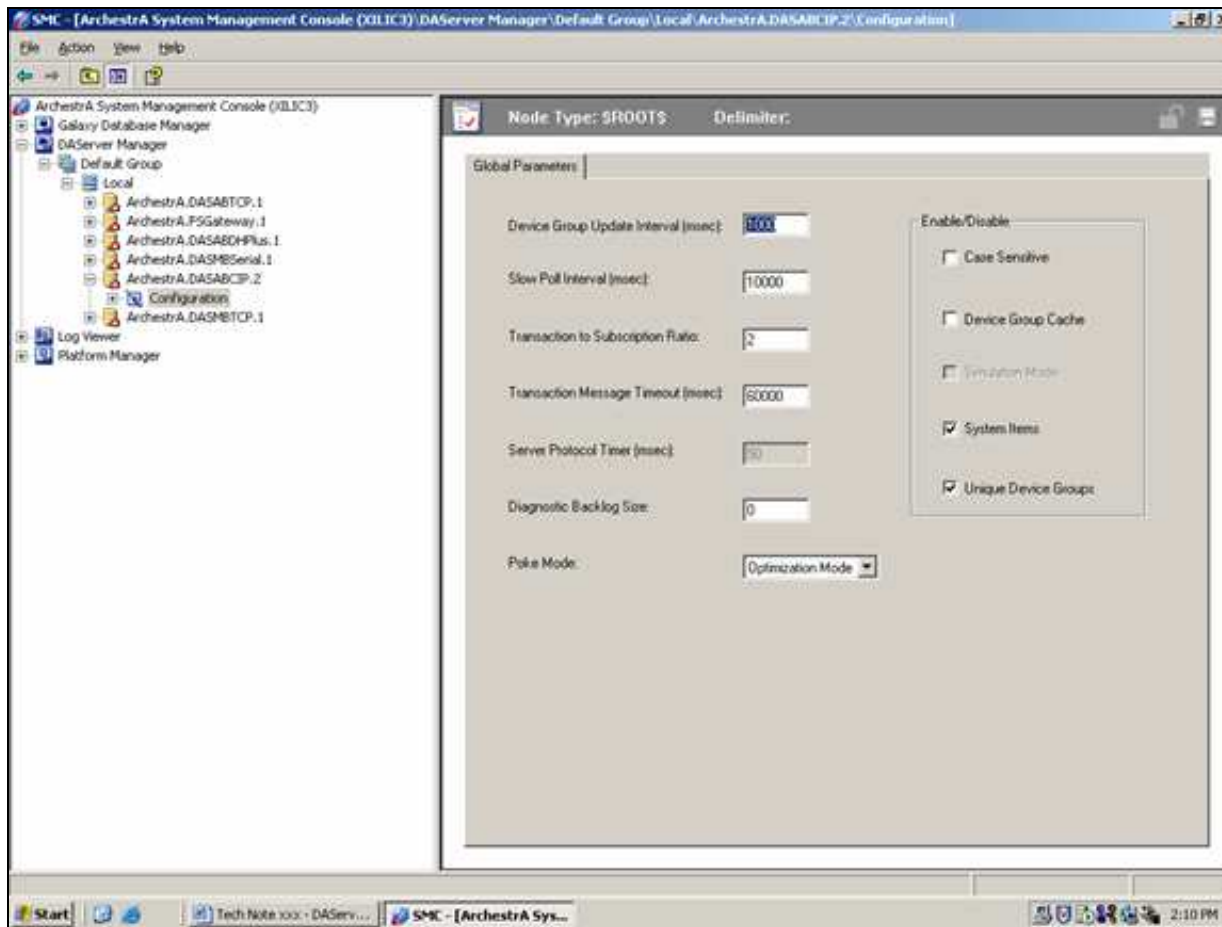

FIGURE 5: GLOBAL PARAMETER SETTINGS
- Launch the SMC and select **DAServer Manager/Default Group/Local/<ServerName>/Configuration** (Figure 5 below).